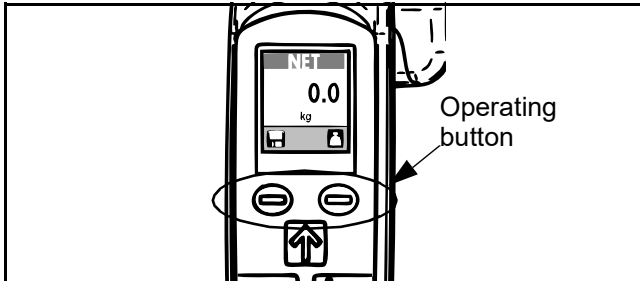

Fig. 69
- 1) At start-up, press both operating buttons for the scale at the same time (see Fig. 69).